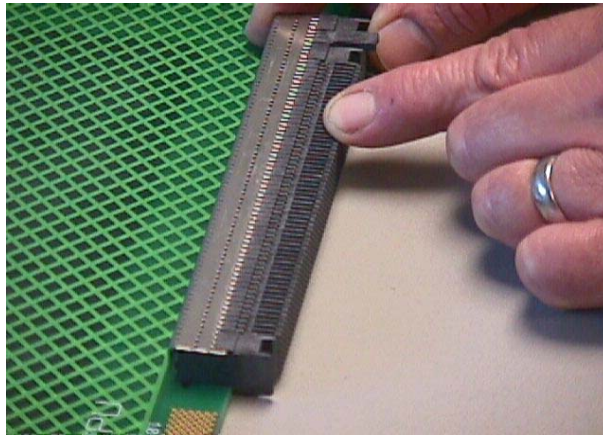

Figure 17
Step 5 Place the stiffener back on connector and align slots with tabs on wafers. See figure 17